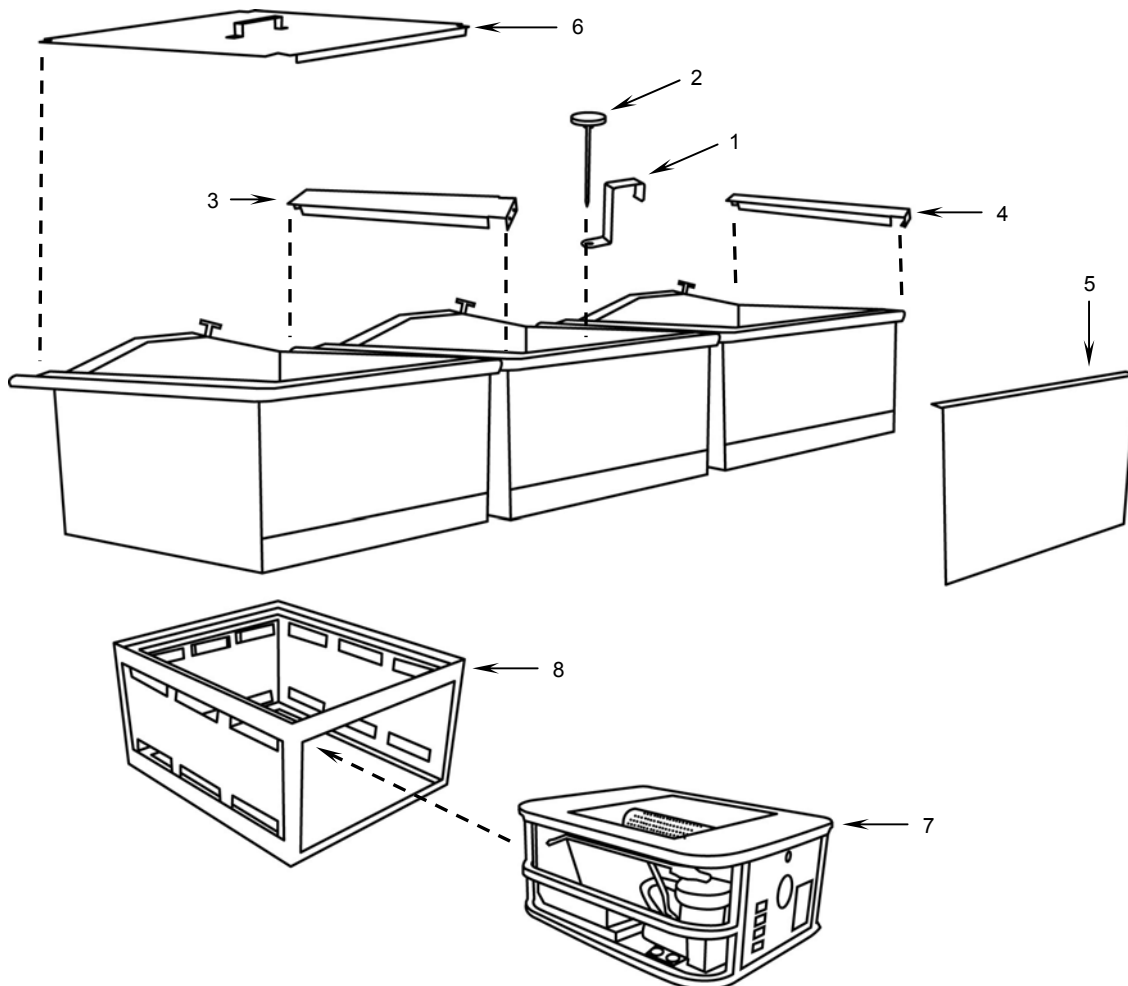

Figure 13. Sink Accessories Installation.
- g. Attach thermometer bracket (**Figure 13, Item 1**) with thermometer (**Figure 13, Item 2**) to the right side of each sink.
- h. Connect adjoining sinks with the two sink coupler heat shields (**Figure 13, Item 3**) by clipping the front of the couplers over the sink first and then the back of the couplers.
- i. Install the sink edge heat shield (**Figure 13, Item 4**) on the right edge of the right sink by clipping the front of the sink edge heat shield over the sink first and then the back of the sink edge heat shield.
Do not install the sink front heat shields (**Figure 13, Item 5**) at this time. They will be installed later after the MBUs are installed, fueled, and started.
- j. Place the sink covers (**Figure 13, Item 6**) on the sinks.
- k. Install the MBUs (**Figure 13, Item 7**) into the burner racks (**Figure 13, Item 8**) with the controls facing out. Make sure the MBUs are pushed all the way back in the burner racks.